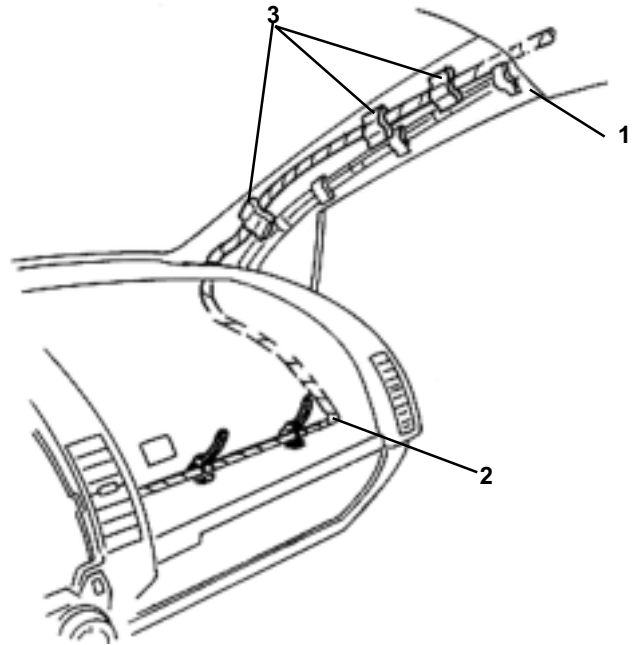

FIGURE 28
4. CONTINUE ROUTING THE DVD MAIN WIRING HARNESS FROM THE TOP OF THE A-PILLAR (1) DOWN TO THE GLOVE BOX AREA (2) AND SECURE USING THREE PIECES OF FOAM TAPE (3). (SEE FIGURE 28)